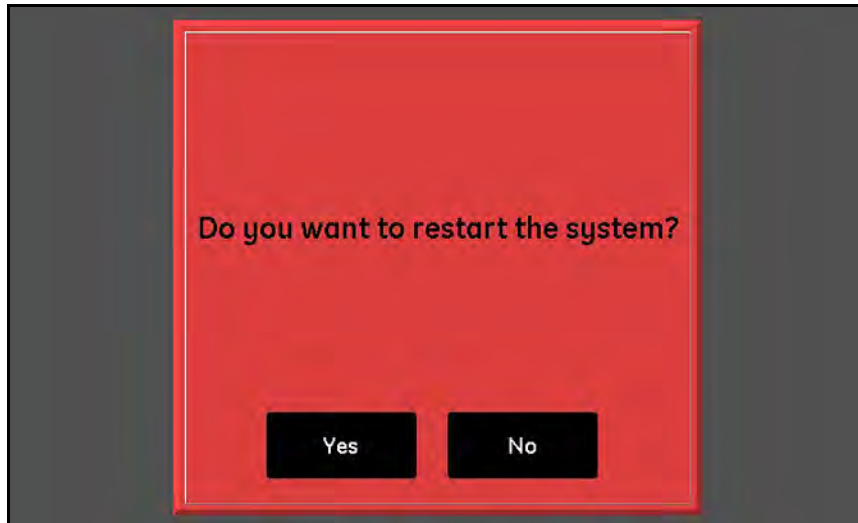

Figure 30: Restart Confirmation Screen
3. At the confirmation screen shown in *Figure 30* below, tap the **Yes** button to restart the unit or tap the **No** button to cancel the request.
To restart (i.e., reboot) the moisture.IQ system, tap the **Restart** button. Then, tap either **Yes** or **No** at a confirmation screen similar to the one shown in *Figure 30* on page 34.